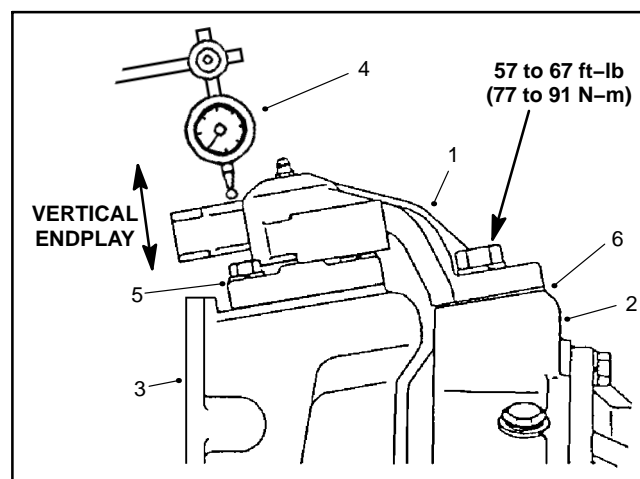

Figure 19
C. Use dial indicator to measure vertical endplay of axle case (Fig. 19).